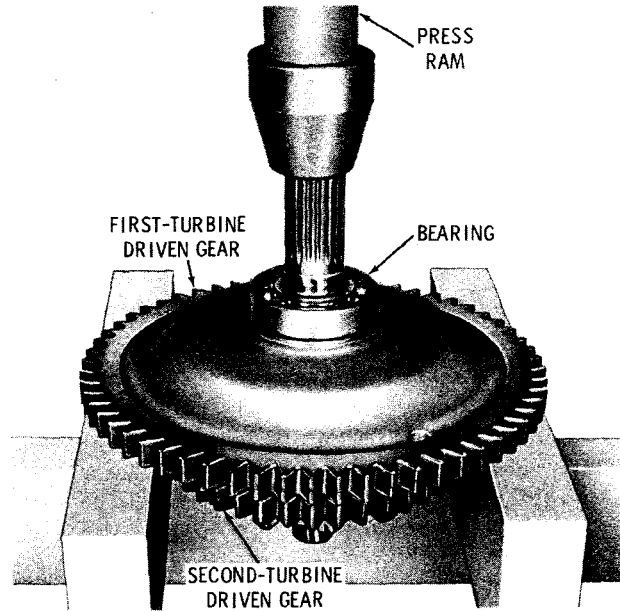

Fig. 6-8. Pressing second-turbine driven gear assembly from freewheel clutch assembly
(1) Press the second-turbine driven gear out of the assembled unit (fig. 6-8). This will free spacers 16 and 18 (A, foldout 4) and bearing 19 which may be removed. Remove fifteen rollers 9, also freed.
(2) Remove bearing 17 from gear 15. Remove twelve nuts 2 from bolts 14.
(3) Using a screwdriver, pry cam assembly 10 away from gear 3. Remove spring plate 5 and roller cage 8. Remove three spring pins 6 and springs 7 from the roller